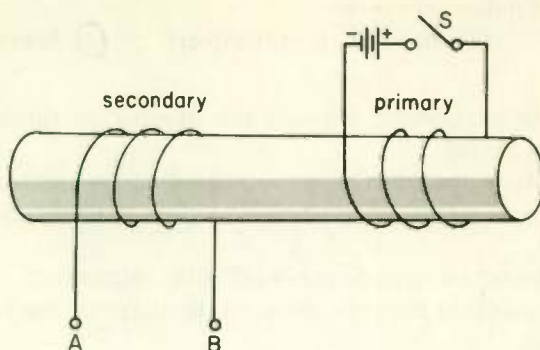

Fig. 42
- (1) polarity of residual magnetism in the core material.
- (2) permeability of the magnetic material.
- (3) direction of current flow through the windings.
- (4) cross-sectional area of the core.
16. Figure 42 shows two coils wound on an iron bar. When switch S is closed, a voltage will be induced in the secondary with
- (1) terminal A positive with respect to B .
- (2) terminal B positive with respect to A .
- (3) terminal A either positive or negative with respect to B , but it is impossible to tell which.
17. After the switch in Fig. 42 has been closed for a long time, the voltage across the secondary will be